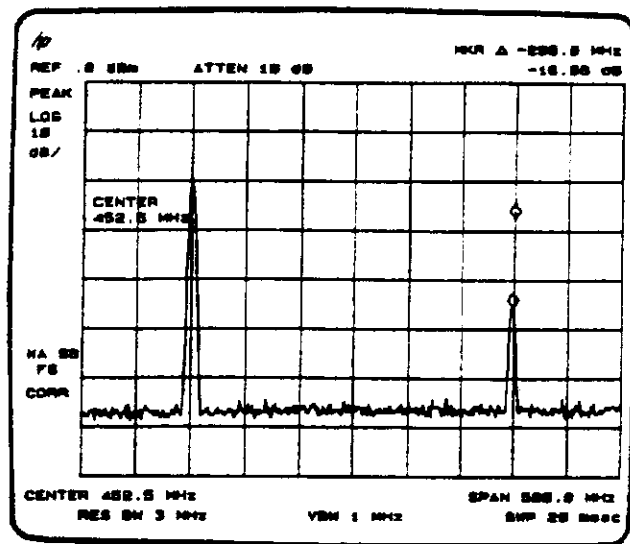

Figure 2-3
4. Press **FREQUENCY** to activate center frequency. Turn the knob counterclockwise to adjust the center frequency until a second signal peak is placed at the position of the second marker. The first marker remains on the screen at the amplitude of the first signal peak. See Figure 2-3.